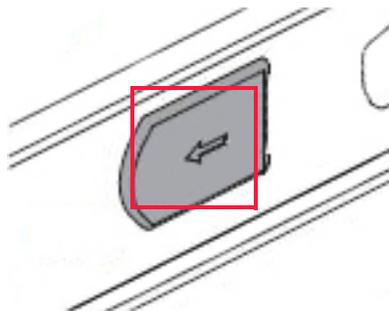

Figure 8.28 Release tab
- With the enclosure in the serviceable position, press the release tab on each inner chassis member rail (shown in Figure 8.28 on page 117) to release the rail from the serviceable position, and simultaneously push the enclosure into the rack.